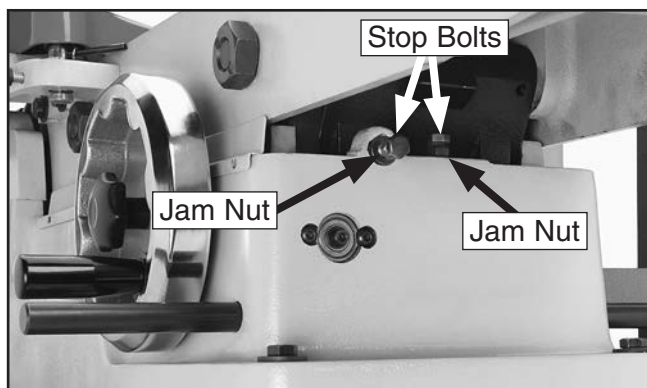

Figure 47. Infeed table positive stop bolts.
3. Loosen the infeed table jam nuts and positive stop bolts shown in **Figure 47**.